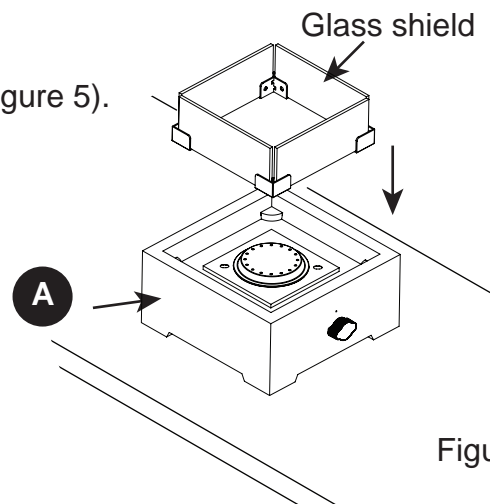

Figure 5
6. Insert glass shield onto the top of fire pit body (A) (see Figure 5).